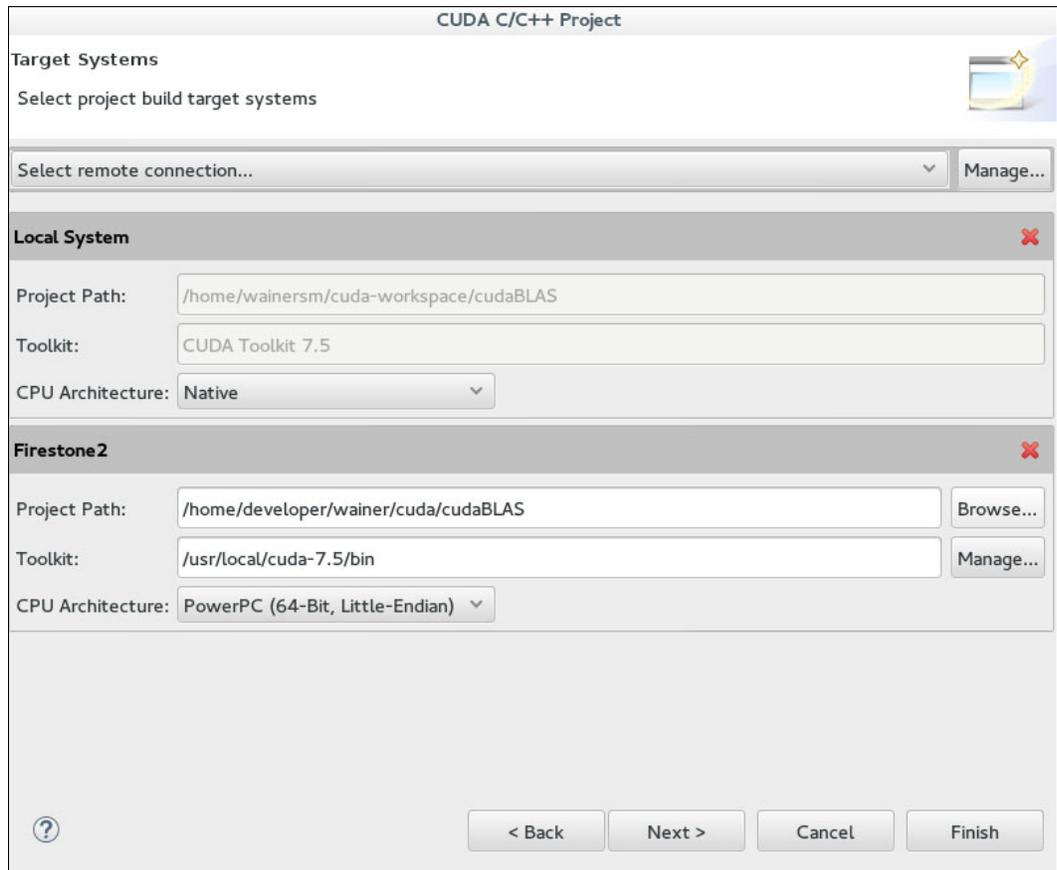

Figure 6-16 Nsight - new CUDA C/C++ project further remote configuration setup
6. Fill out the **Project path**, **Toolkit**, and set the **CPU Architecture** fields for the newly created connection (see Figure 6-16). You must remove the **Local System** configuration. Click **Next** → **Finish**.